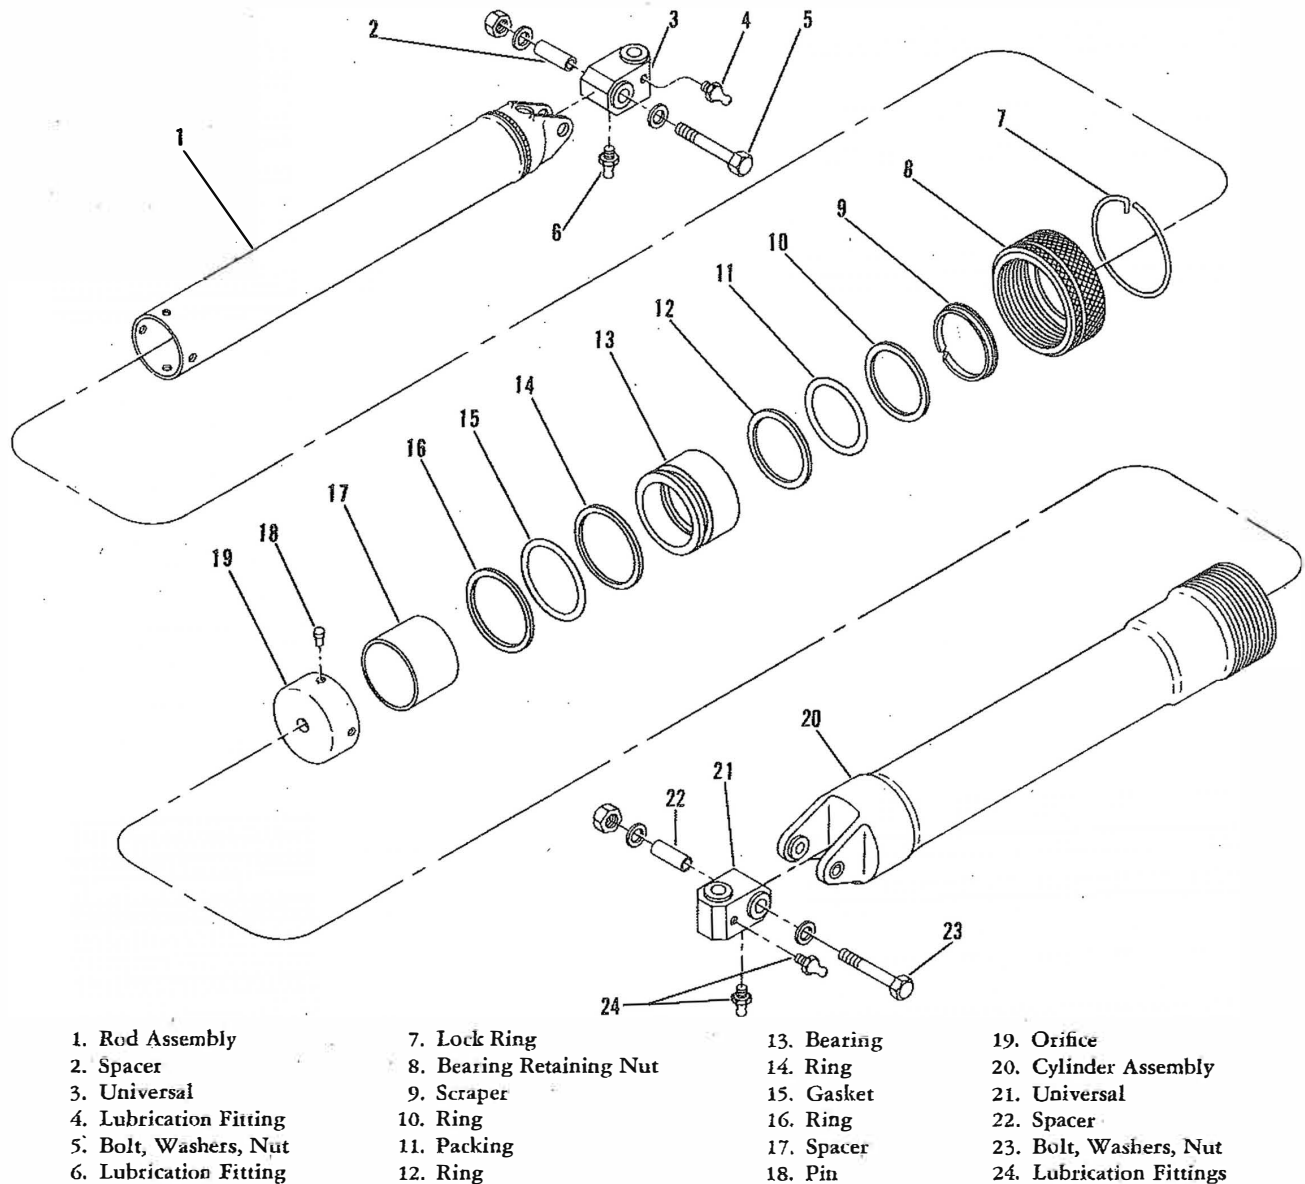

Figure 2-22. Tail Wheel Strut Assembly Disassembled
## 2-269. DISASSEMBLY. (See figure 2-22.)
- a. Replace the oleo rod (1, figure 2-22) if it is dented, scratched or scored to a depth exceeding 25 micro-inches.
- b. Replace the cylinder (20) if it is dented or if the inside surface is scratched or scored to a depth exceeding 25 micro-inches.
2-274. ASSEMBLY. (See figure 2-22.)
b. Apply 1000 psi hydraulic pressure for at least two minutes and check for leakage at the weld on the rod (1, figure 2-22) and at the areas around the scraper (9) and the nut (8). No external leakage should occur.